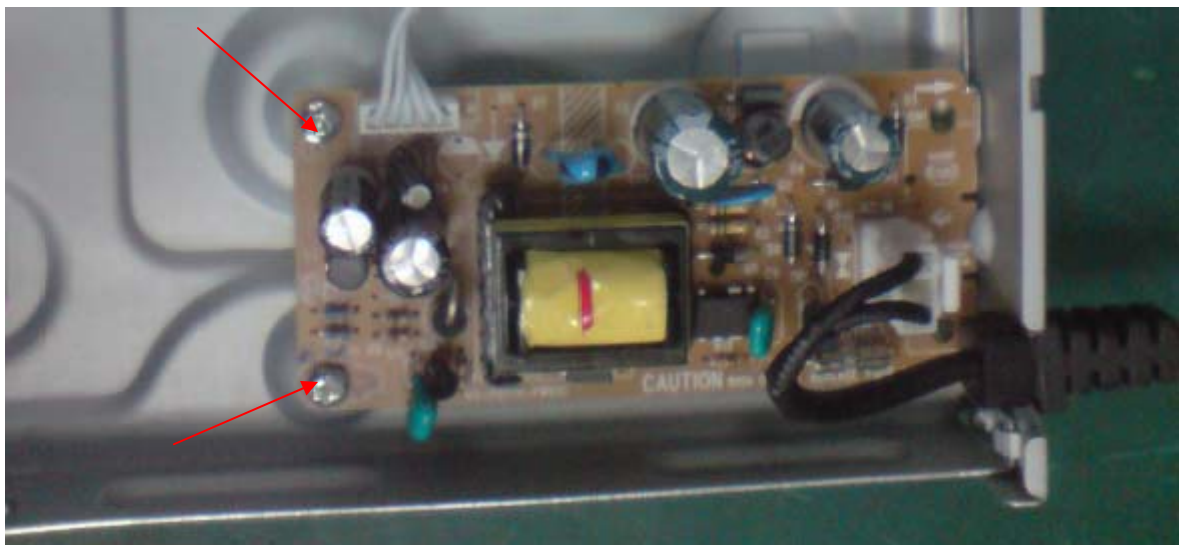

Figure 8
Step7: Remove the 2 screws on Power Board to dismantle the Power Board. (Figure 8)